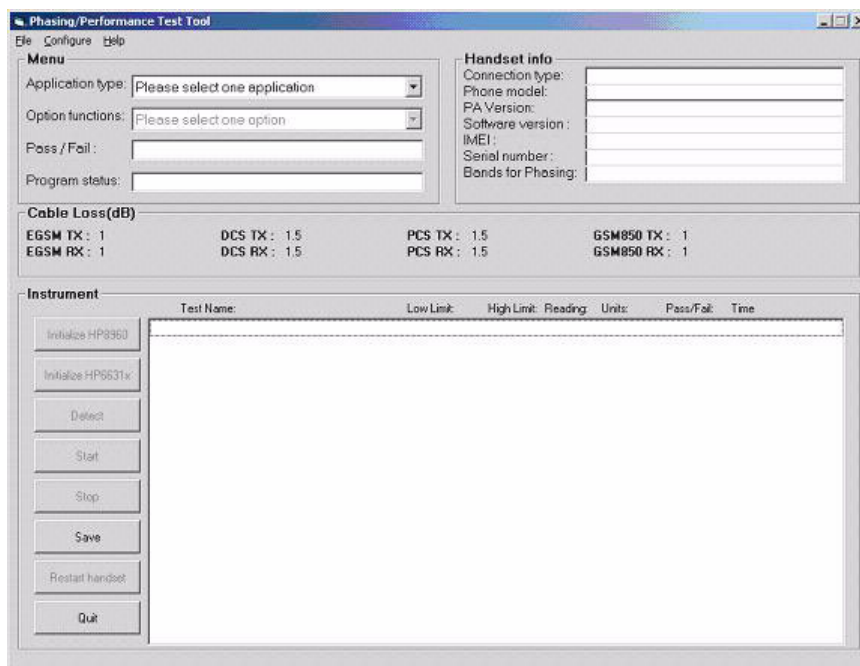

Figure 2. PPT Main User Interface
There are four areas on the main window, as shown in Figure 2:
2. Launch the PPT application. The main application window should be similar to the one shown in Figure 2 on page 6.